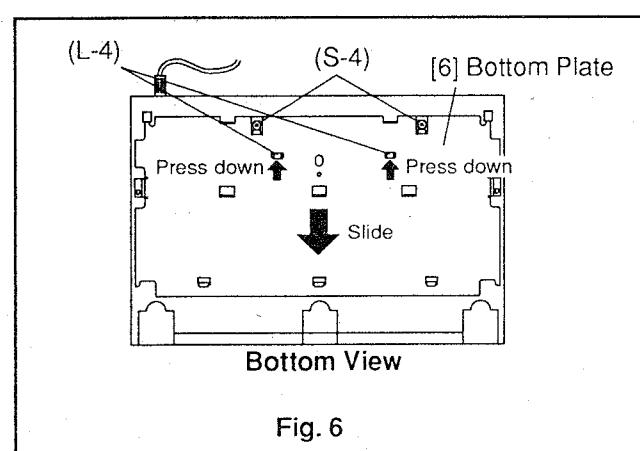

Fig. 6
- First remove 2 Screws (S-4). Then, releasing 2 Locking Tabs (L-3), lift Main CBA. (Fig. 6, 7)